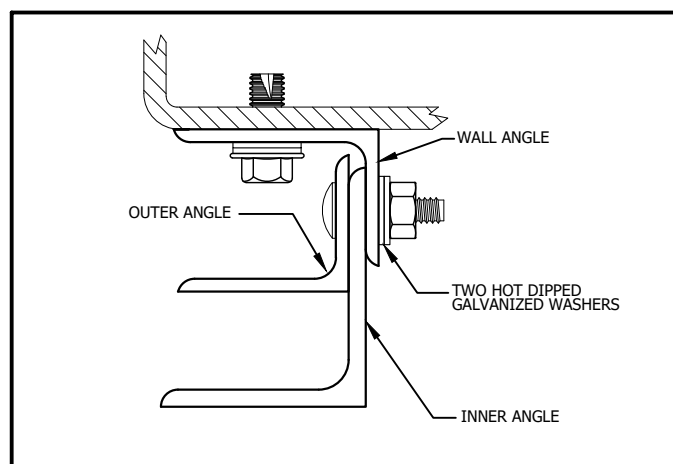

FIGURE 11
- a. Use two hot dipped galvanized washers under each nut as shown in Figure 11.
- j. Tighten guide assembly fasteners securely with two hot dipped galvanized washers per bolt as shown in Figure 11.